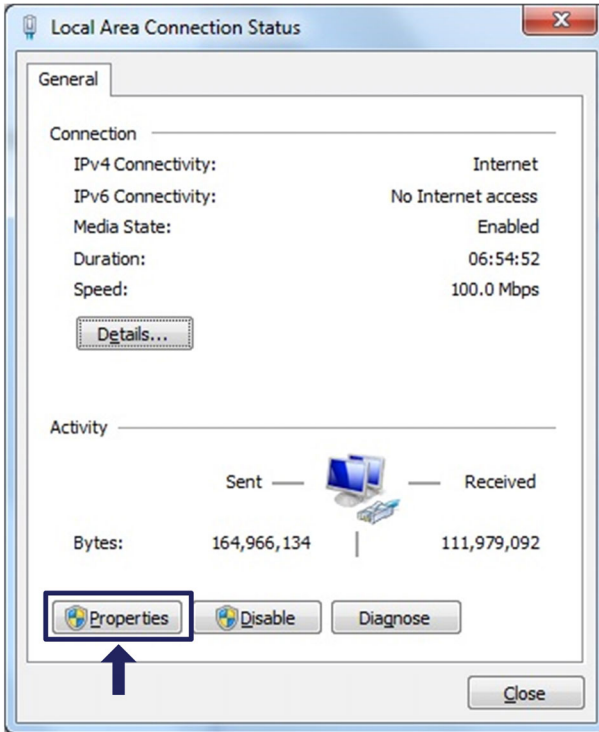

Fig. 3.7 Local Area connection Status
- ▶ Select the LAN connection. The window displayed in Fig. 3.7 will appear. Click on **Properties**.